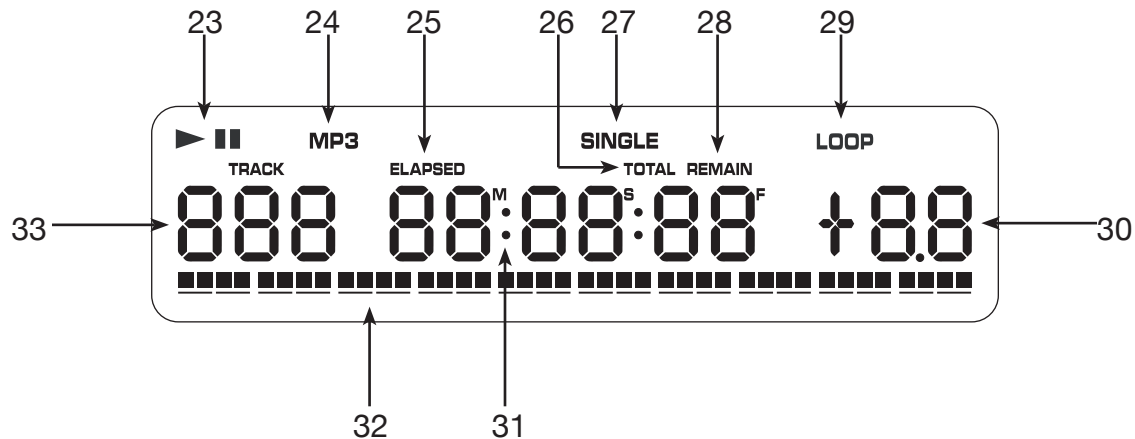

Figure 5
D. LCD DISPLAY PANEL (FIGURE 5)
25. ELAPSED INDICATOR - This indicator is in direct reference to the *TIME DISPLAY (31)*. When "ELAPSED" is indicated in the *LCD DISPLAY (1)*, the *TIME DISPLAY (31)* in the *LCD* will define the single track's elapsed time. The time mode is changed by the tapping on the *TIME BUTTON (2)*.
26. TOTAL/REMAIN INDICATOR - This indicator is in direct reference to the *TIME DISPLAY (31)*. When "TOTAL" and "REMAIN" are indicated in the *LCD DISPLAY (1)* the *TIME DISPLAY (31)* in the *LCD (1)* will define the total disc remaining time. The time mode is changed by the tapping on the *TIME BUTTON (2)*.
28. REMAIN INDICATOR - This indicator is in direct reference to the *TIME DISPLAY (31)*. When "REMAIN" is indicated in the *LCD DISPLAY (1)*